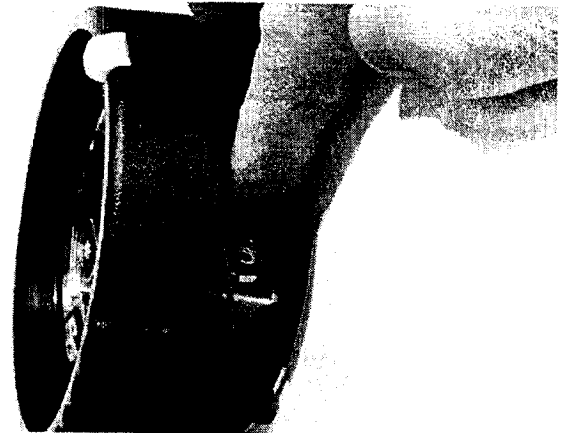

Figure 5
Step 5—Gently place any excess wire into the cavity. Make sure it is not in a position to be caught between the keypad ring and the keypad base when the ring is pushed back against the base (Figure 5).